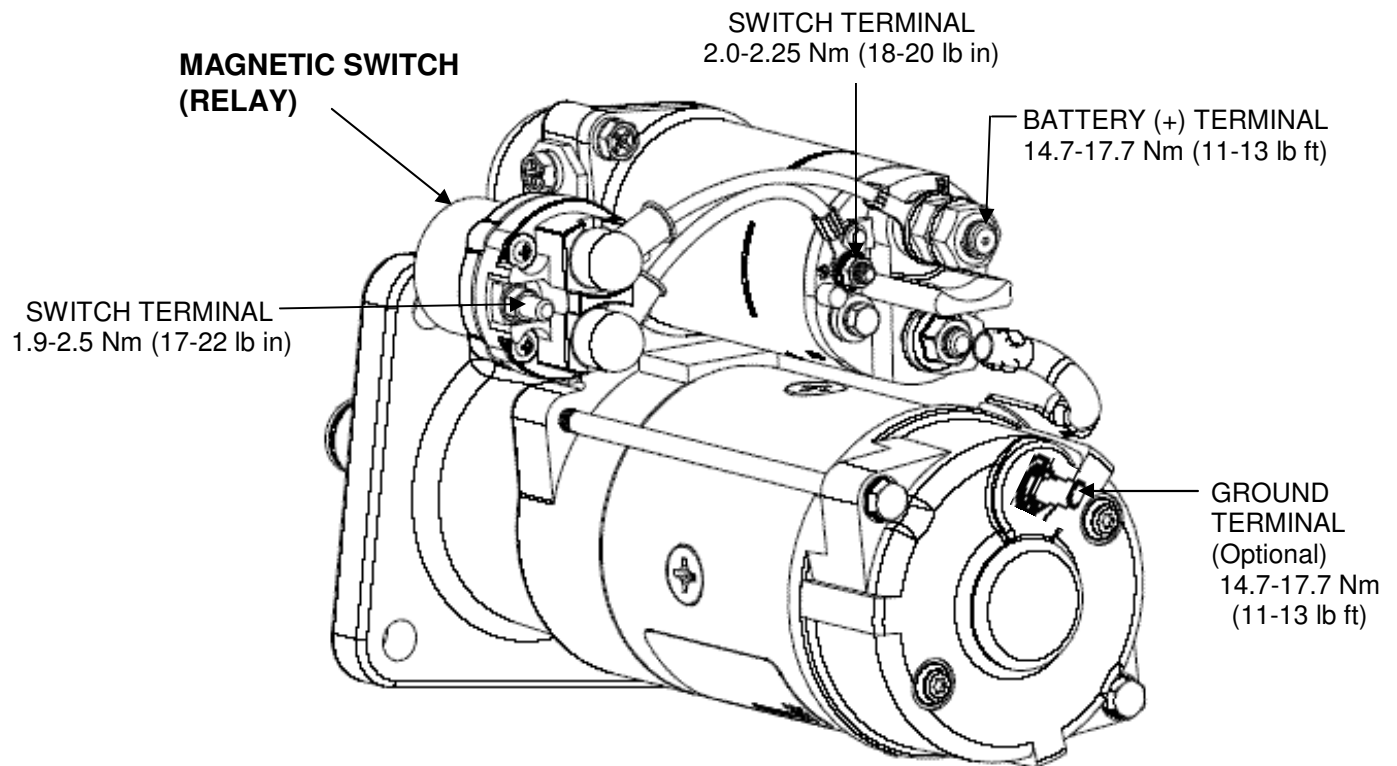

FIGURE 2 – MAGNETIC SWITCH (RELAY) ATTACHED
INTEGRATED MAGNETIC SWITCH (IMS) REPOSITIONING (Figure 2, page 2)
- ◆ **Reinstall mounting screws and torque all fasteners according to values labeled in figure 2, page 2.**